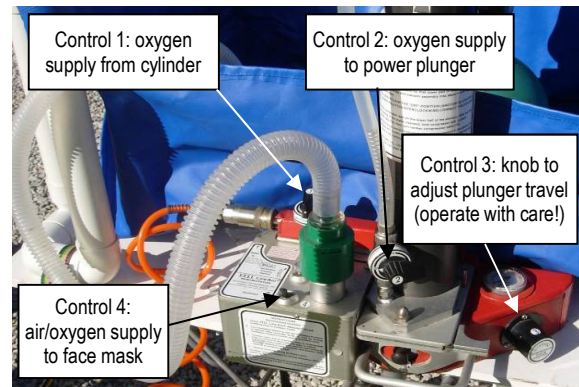

Figure 5.7 Thumper controls
- Check that all controls are set to off (Figure 5.7) and that the plunger adjustment (knob 3) is set for no movement. This should have been done previously but check as a precaution.
- Turn on control knobs 1 and 2 (Figure 5.7) then CAREFULLY turn knob 3 to start the piston travel, adjusting the number of rings exposed on each down stroke to match those on the last whole diagram on the plunger support column.